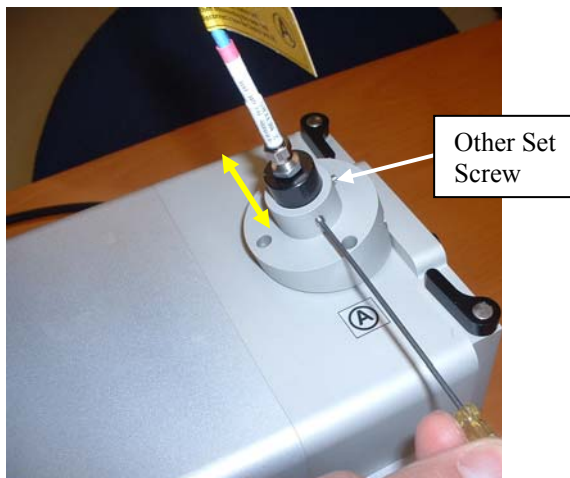

Fig. 8-1. Adjusting the laser focusing by moving the fiber up or down.
3. Push the fiber optic connector down about 1 or 2 mm (Fig. 8-1).